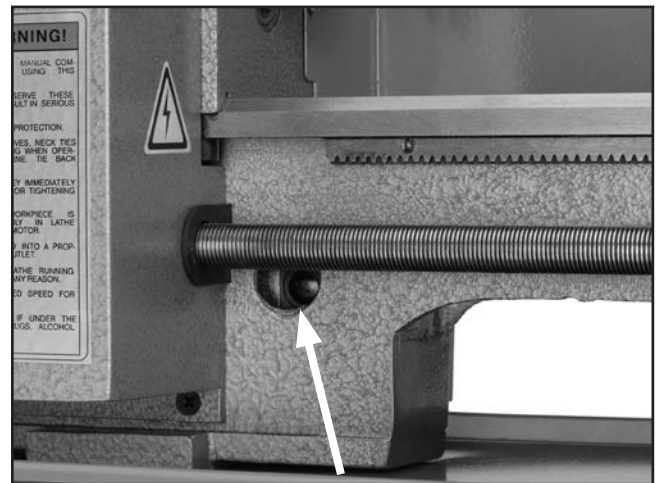

Figure 38. Front motor brush cap.
2. Remove the front and rear caps (see **Figures 38 & 44**).